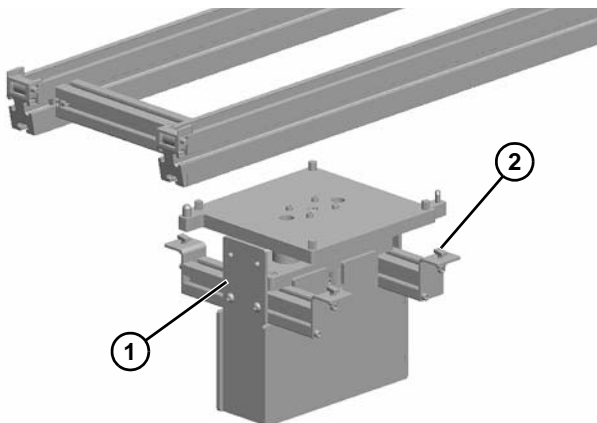

Figure 14
1. Raise lift and locate station (**Figure 14, item 1**) into position from under the conveyor, lining up bolts (**Figure 14, item 2**) with follower nuts in conveyor channel.